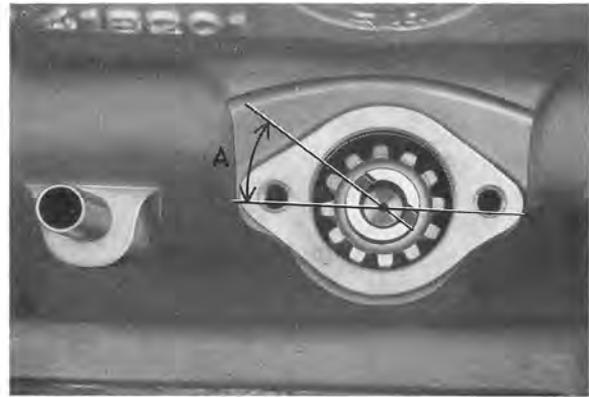

Fig. 2-51. Distributor drive position
When No. 1 cylinder is at top dead center, fit the oil pump drive and distributor. The small part at the groove is turned obliquely upwards-backwards and the groove set at an angle of 35° to the longitudinal axis of the engine, see Fig. 2-51 (A). Make sure that the shaft goes down into its groove in the pump shaft. (NOTE. When the timing gear marks are opposite each other, then the piston for No. 6 cylinder is at top dead center, firing position.)